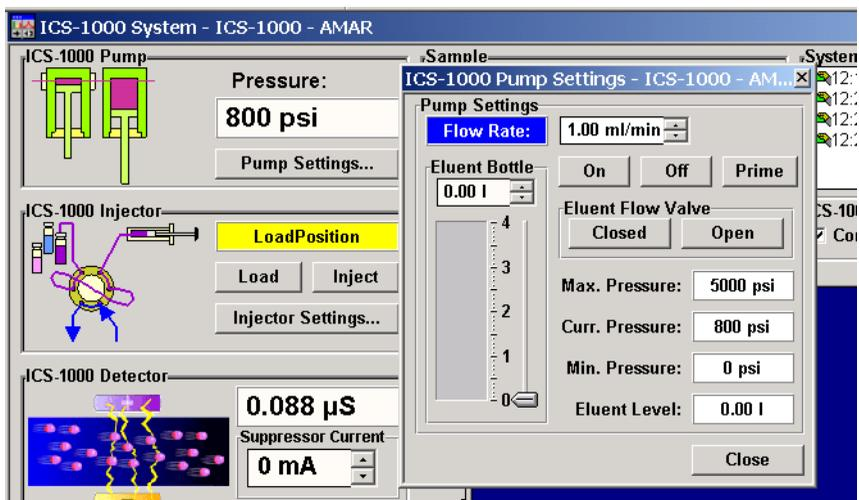

Figure 36. Chromeleon Control Panel: Pump Settings
4. On the Chromeleon Control Panel, click **Pump Settings** and then click **Eluent Flow Valve Open** (see Figure 36).
3. Click **Prime** on the Chromeleon Control Panel (see Figure 36). The pump will begin pumping at approximately 3 mL/min.